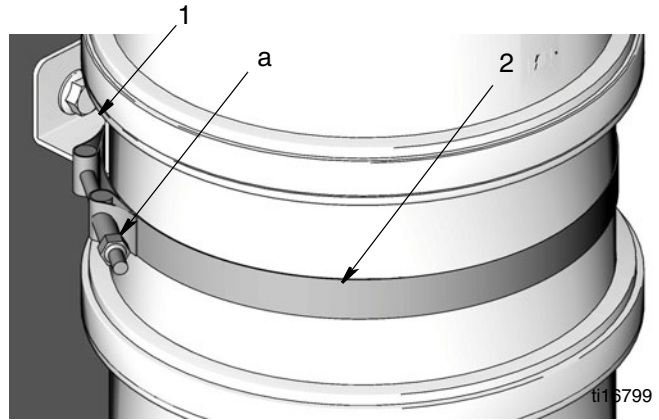

FIG. 4
3. Place the band clamp (2) around the reservoir and over the bracket (1) as shown in FIG. 3 and FIG. 4.